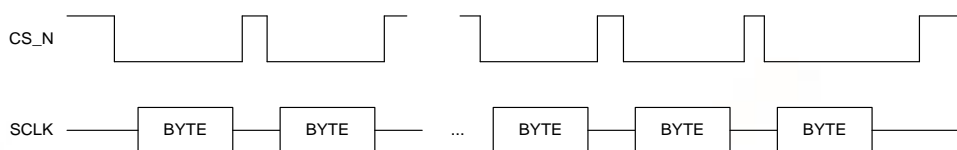

Figure 8-4. CS_N deassert mode
- Configurable option to control CS_N deassert between byte transfers. The controller supports a special transmission format called CS_N deassert mode. Figure 8-4 illustrates the waveform in this transmission format.